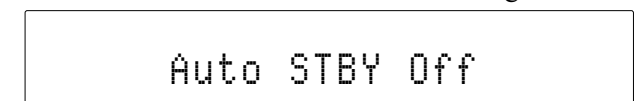

Figure 44
1. Using the MCT80 Remote Control, press and hold in the (Power) Push-button for about 5-10 seconds, at which time the Front Panel Display indicates "Auto STBY Off". Refer to figure 44.